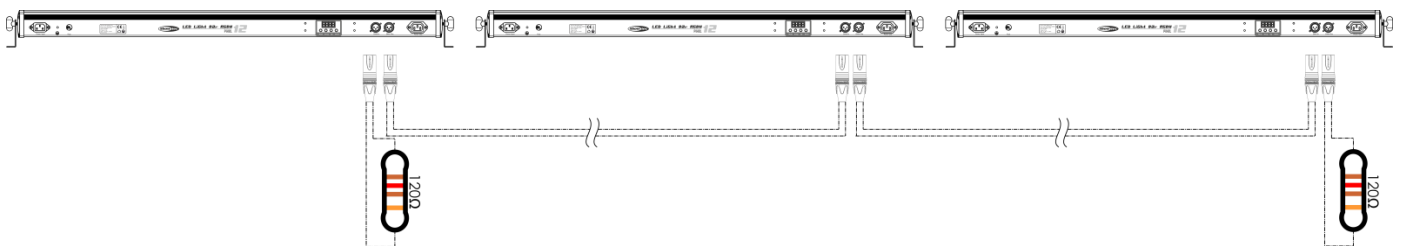

Fig. 02
- 04) Link the units as shown in Fig. 02, connect a DMX signal cable from the first unit's DMX "out" socket to the second unit's "in" socket. Repeat this process to link the second and third units. You can use the same functions on the master device as described on pages 13-14 (Built-in Programs, Auto run). This means you can set your desired operation mode on the master device and all slave devices will react the same as the master device.